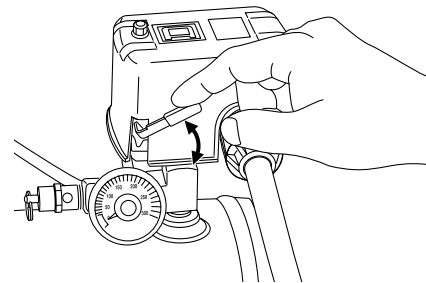
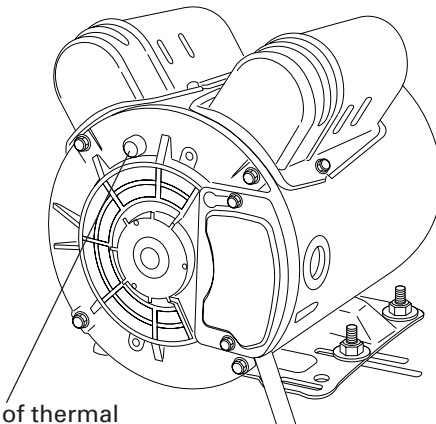

Fig. 3
Fig. 8
- (2) Remove any moisture in the air compressor air tank. To drain the air tank, open the drain valve slowly and tilt compressor to empty accumulated water. Close tightly when drained.
(3) Make sure the Motor/Pressure switch is in the "OFF" position (Fig. 3). If the plug is connected to a receptacle while the knob is in the "AUTO" position, the compressor will start operating immediately and can cause serious injury.
- (1) Make sure the Motor/Pressure switch is in the "OFF" position and disconnect the plug from the receptacle. (Fig. 3)
- (2) If the extension cord does not conform to the specifications given on page 9 and 10 replace with an extension cord such as that shown on page 9 and 10. If the capacity of the power supply is insufficient, increase the power supply capacity to remove the cause of a flow of excessive current (over-current).
- (3) Wait approximately 5 minutes, then press the reset switch of the thermal protector (Fig. 8).
- (4) Start up. If the motor still stops during operation, please contact the service center.